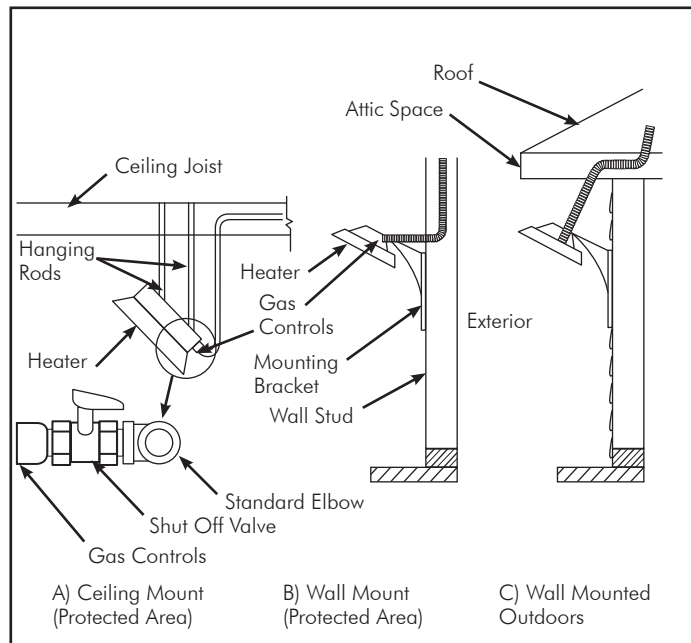

FIG. 4-27 Ceiling or wall hung infrared heater car ports/patios/decks
- Infrared heaters mounted from ceilings and from walls of structures shall be connected to the DIAMONDBACK™ system as shown in **FIG. 4-27**, and in accordance with Tecvalco Ltd.'s instructions.